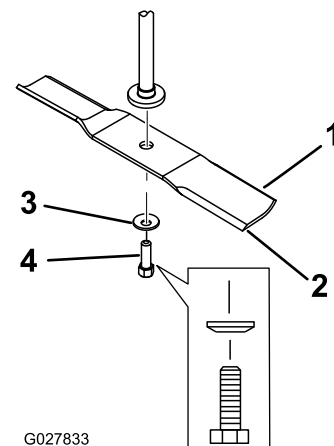

Figure 47
2. Remove the blade bolt, the curved washer, and the blade from the spindle shaft (Figure 47).
1. Install the blade onto the spindle shaft (Figure 47).
2. Install the curved washer (cupped side toward the blade) and the blade bolt (Figure 47).